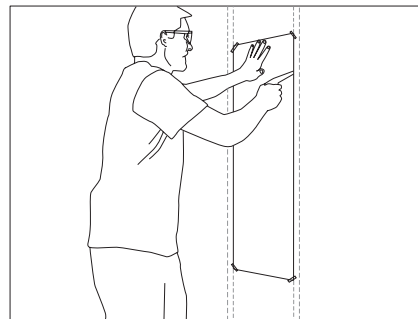

Figure 5
*Once you are sure there is no other obstacles inside your desired cut area, cut out the full rectangle that you have marked with the template. Remove drywall cut-out away from wall. See Figures 5 and 6*